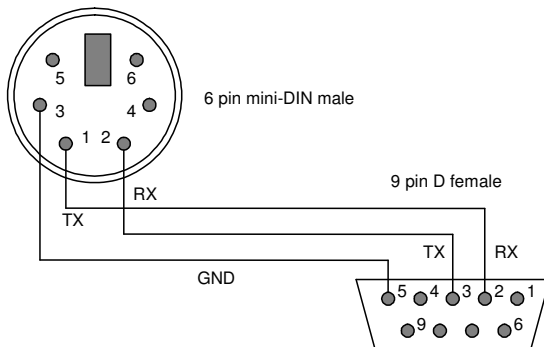

Figure 11. RS232 connection cable from the I200 to a PC serial port (DB9).
4) Start the PSI Diagnostic. It will search the available ports and present a search a list. Figure 11 shows a case where the program found two serial ports, a connected USB device (the I200) and a local area network adaptor. It will search for loops and devices on all checked options.